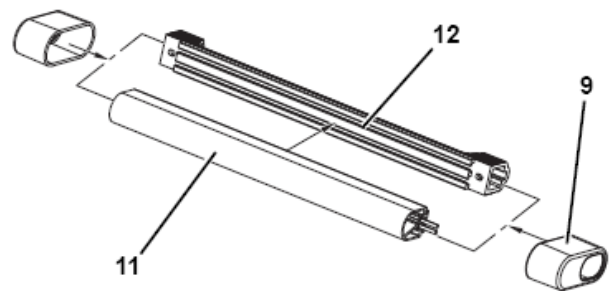

Figure 4-12.
2. Align and attach Platform Sensor Mount (12) onto the SkyGuard Switch (11) as shown in Figure 4-12.
3. Attach Platform Sensor Covers (9) to SkyGuard switch assembly at both ends. See Figure 4-12.